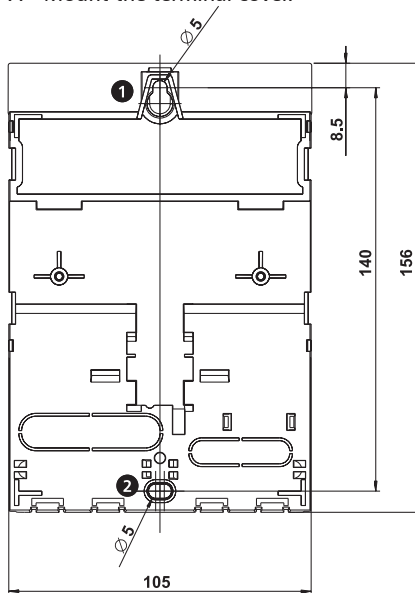

Fig. 2: Rear side of the controller with the upper ❶ and lower ❷ mounting holes.
2. Screw in the screw for the upper mounting hole ❶ (Fig. 2) until the screw head has a clearance of 5 ... 7 mm from the mounting surface.
4. Mark the position of the lower mounting hole ❷ through the casing.
6. Hang the controller by the upper mounting hole ❶ and then fasten the screw in the lower mounting hole ❷.